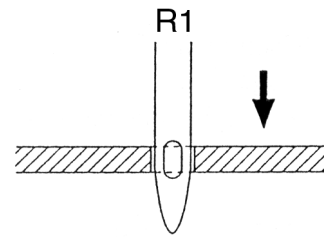

Fig. 34
- Turn the handwheel in the normal direction until the needle is positioned as in fig. 34.